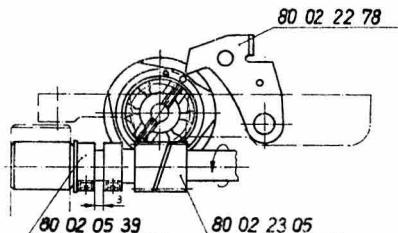

fig. 3
- 2.3. The central control system is inserted taking care that the rear feeler lever will show towards the circular marking "o" (see fig. 3) at the front side of the cam package. If the gear teeth of worm - worm gear will not get into mesh in this position a slight deviation of the circular marking in both directions towards the feeler lever will be permitted for an intermeshing of the teeth.